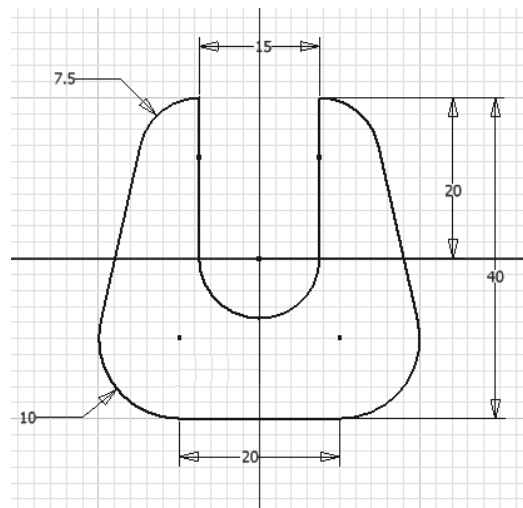

Figure 3-57 Dimensioned sketch for Tutorial 3
- b. Add required dimensions and constraints to the outer loop, refer to Figure 3-57.
With this, all dimensions are applied (see Figure 3-57), except the horizontal dimension between the center points of arcs 4 and 6 or arcs 8 and 6. The need of these dimensions depends on the constraints and dimensions assumed while drawing the sketch. If you are warned that adding any of these dimensions will over-constrain the sketch, choose **Cancel** from the message box. In this case, this dimension is already assumed.